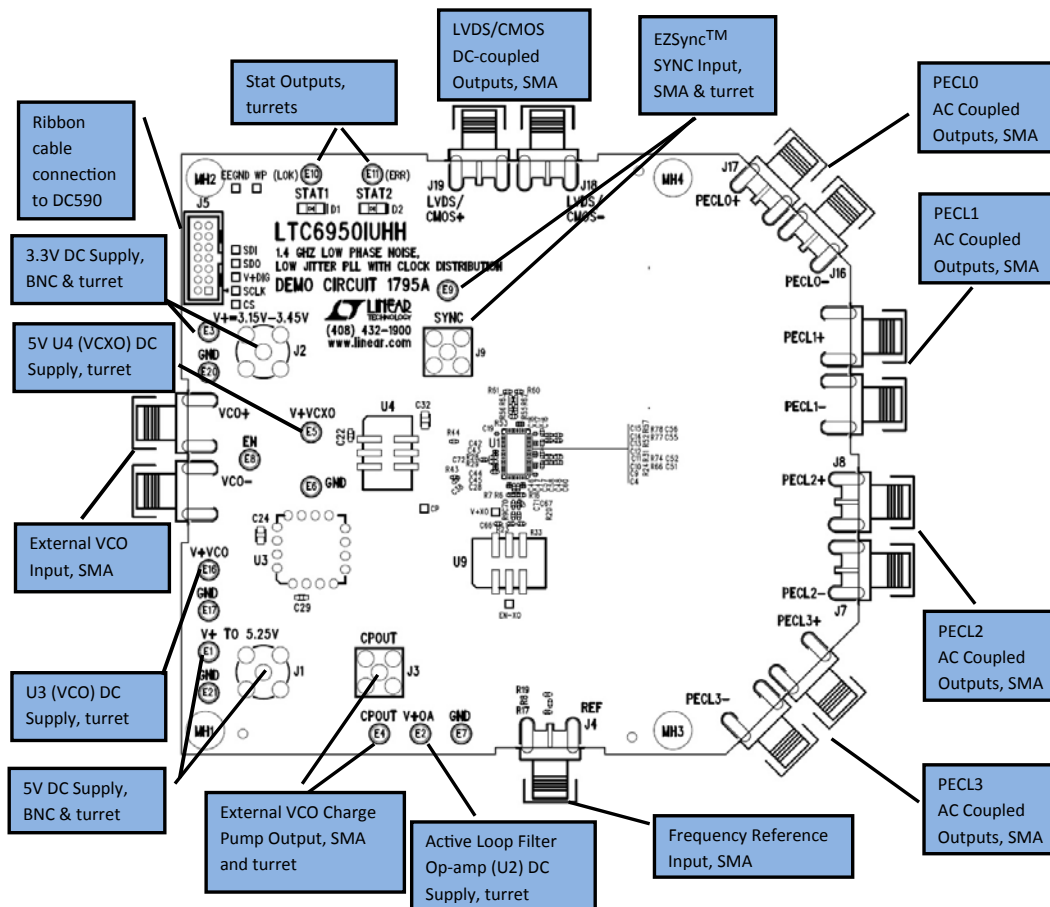

Figure 1. DC1795A Connections
1. Connect the GND, V⁺ = 3.15V to 3.45V, V⁺ to 5.25V and V⁺ VCXO turrets to a power supply and apply power (see Figure 1 and the Typical DC1795A Requirements and Characteristics table).